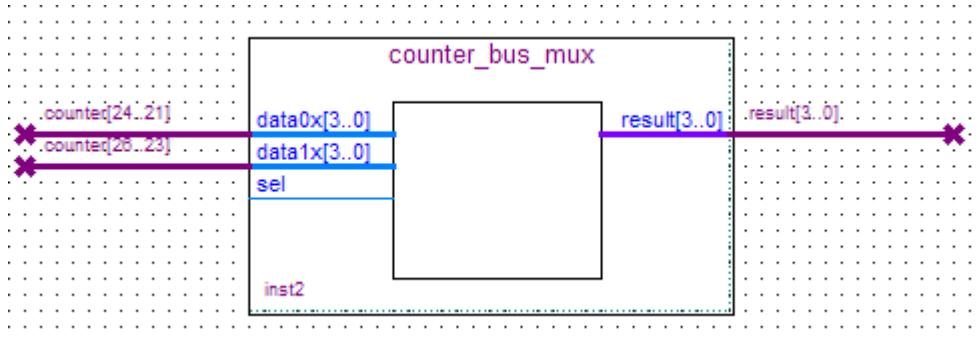

Figure 6-37 Renamed counter_bus_mux Bus Lines
- Click OK. **Figure 6-37** shows the renamed buses.